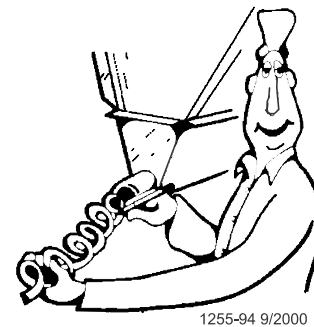

Figure 55. Measure the Auger from relaxed position
10. Pull the auger at the boot end until it begins stretching. Then let it relax. In the *relaxed* position, mark the auger at the end of the boot. See **Figure 55**.